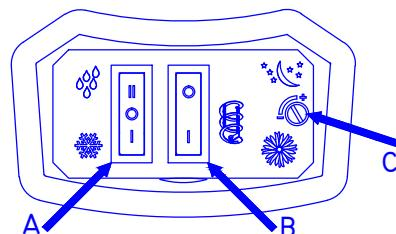

Fig. 5
2.4 Bowl controls (Fig. 5)
B in position  - **I** see Fig. 5
In position  - II (see Fig. 5)